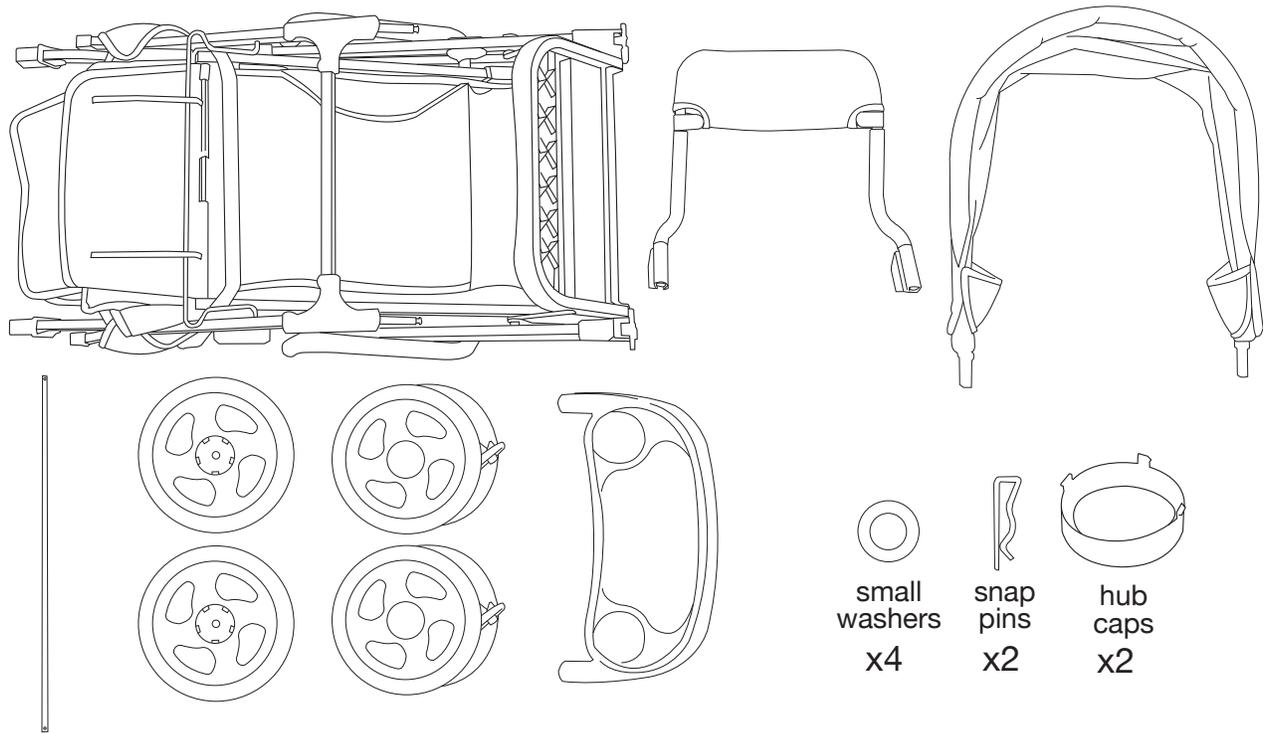

Figure 1
- Identify the parts (stroller, front wheels (2), rear wheels (2), canopy, tray, car seat carrier support, rear axle, small washer (4), snap pin (2), hub cap (2), and documents) with the pictures in Figures 1.